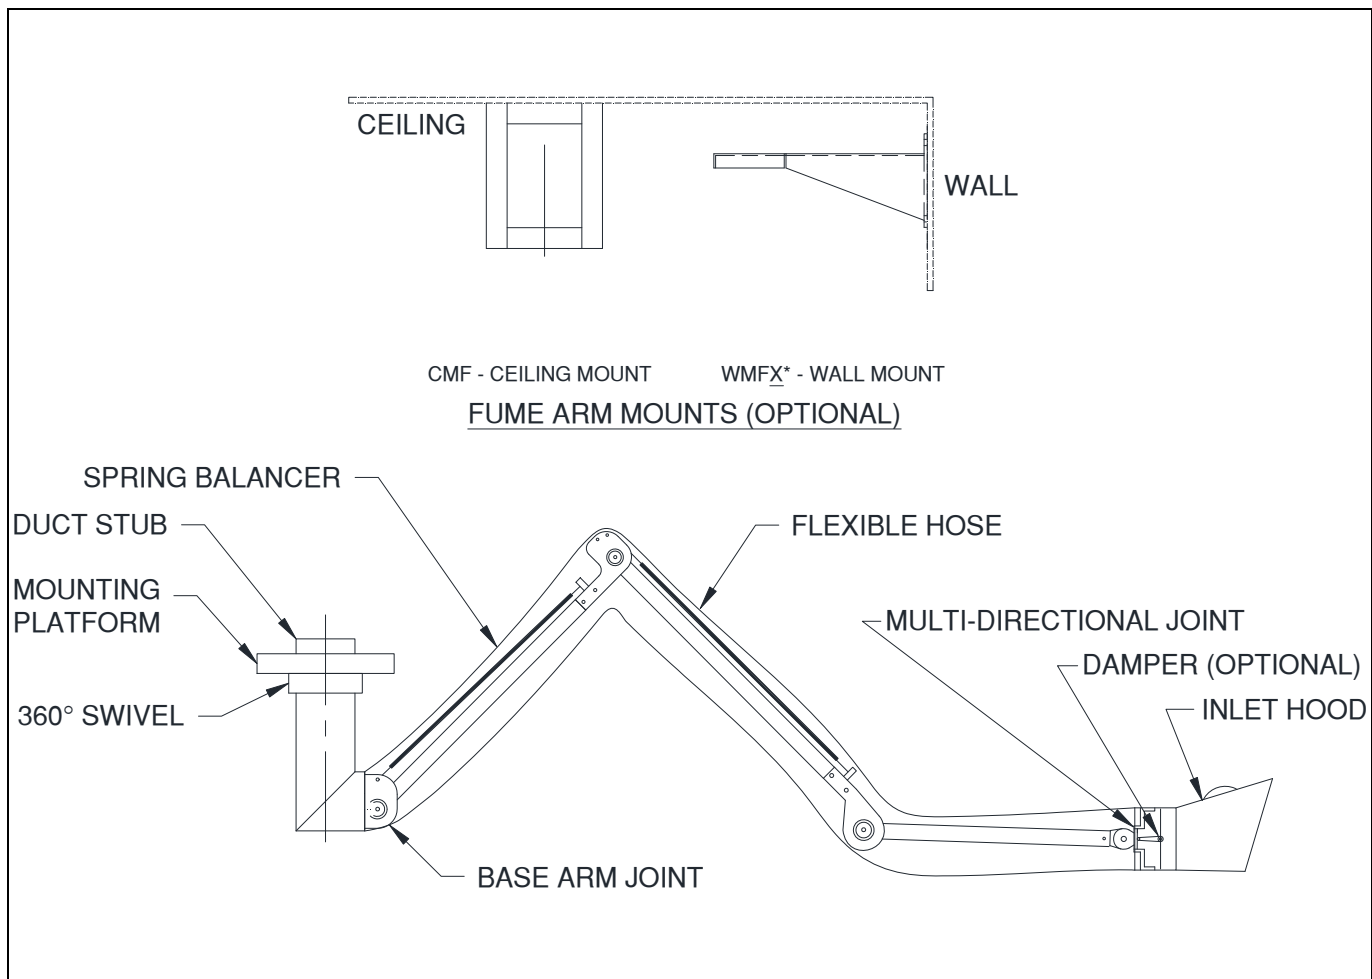

FIG 1: IAFE 3 section arm assembly with optional mounting brackets.
1. Mount the base mount to the wall or ceiling with minimum 2" x 2" x 1/8" angle iron if the Ventaire mounts are not supplied. Mounting configurations should look similar to those in FIG 1.
3. Assemble the arm sections as shown in FIG 1. Connect the spring counterbalance(s), if necessary, by placing one hook, on the end of the spring, through the hole in the top of arm joint, and placing the other hook onto the eyebolt fastened to the square tubing at the end of the arm section.
8. The finished arm should appear as depicted in FIG 1.